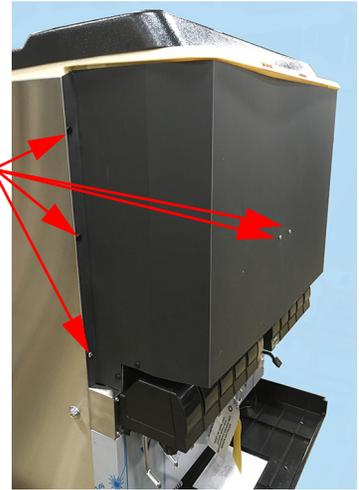

FIGURE 1
1. Remove the “dummy” merchandiser. See FIGURE 1.